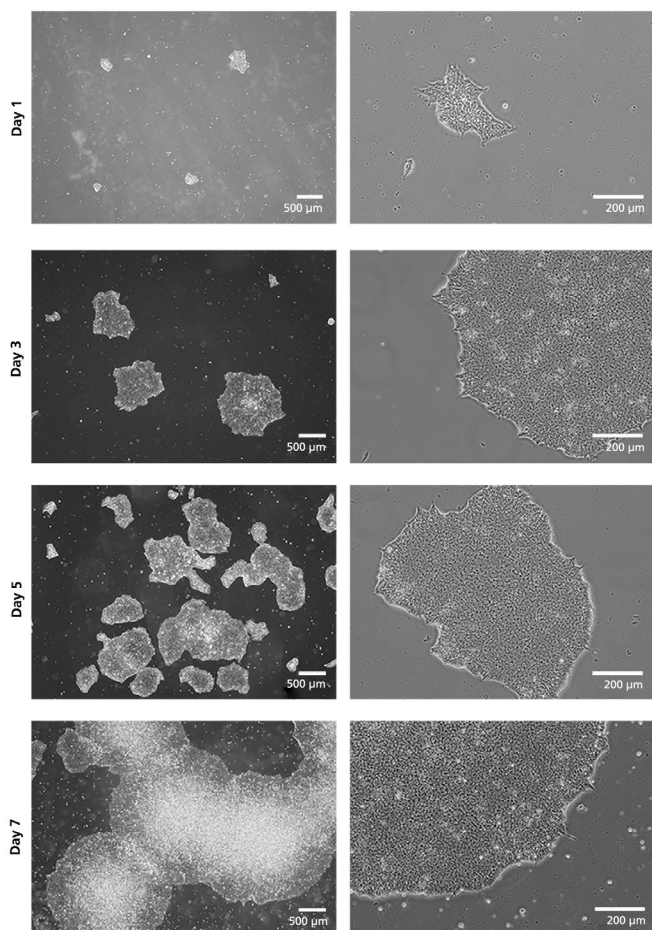

Figure 1. Recovery of SCTi003-A-3 hiPSCs on Days 1 - 7 After Thaw
13. Perform medium changes as desired using mTeSR™ Plus and visually assess cultures daily to monitor growth and morphology. See Figure 1 for expected growth characteristics during the first seven days after thawing. Medium can be changed daily, every other day, or up to two consecutive days of feeding can be skipped when using mTeSR™ Plus. To skip two consecutive days of feeding, add twice the volume of medium.